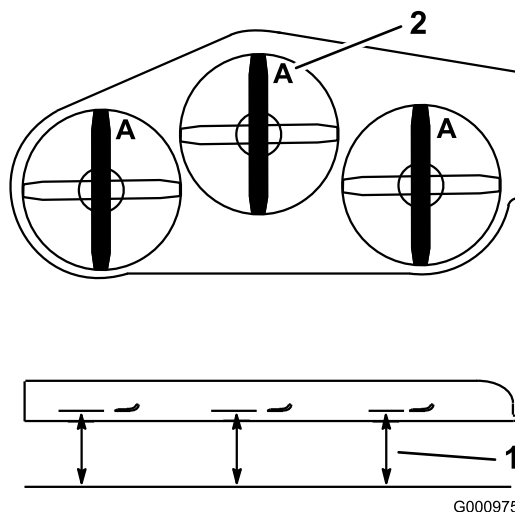

Figure 97
3. Rotate the blades until the ends face forward and backward (Figure 97). Measure from a level surface to the cutting edge, position A, of the blades (Figure 97). Note this dimension.